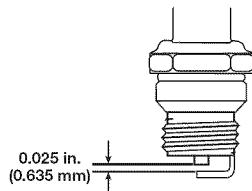

Fig. 24
5. Replace cracked, fouled or dirty spark plug. Set the spark gap at 0.025 in. (0.635 mm) using a feeler gauge (Fig. 24).